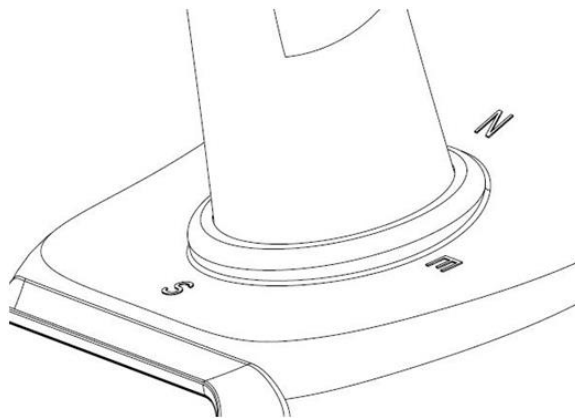

Figure 9
1. Reference Figure 9. Locate the four wind vane compass rose indicators of N, E, S, W (representing North, East, South and West). Align the compass rose direction upon final installation with a compass or GPS.